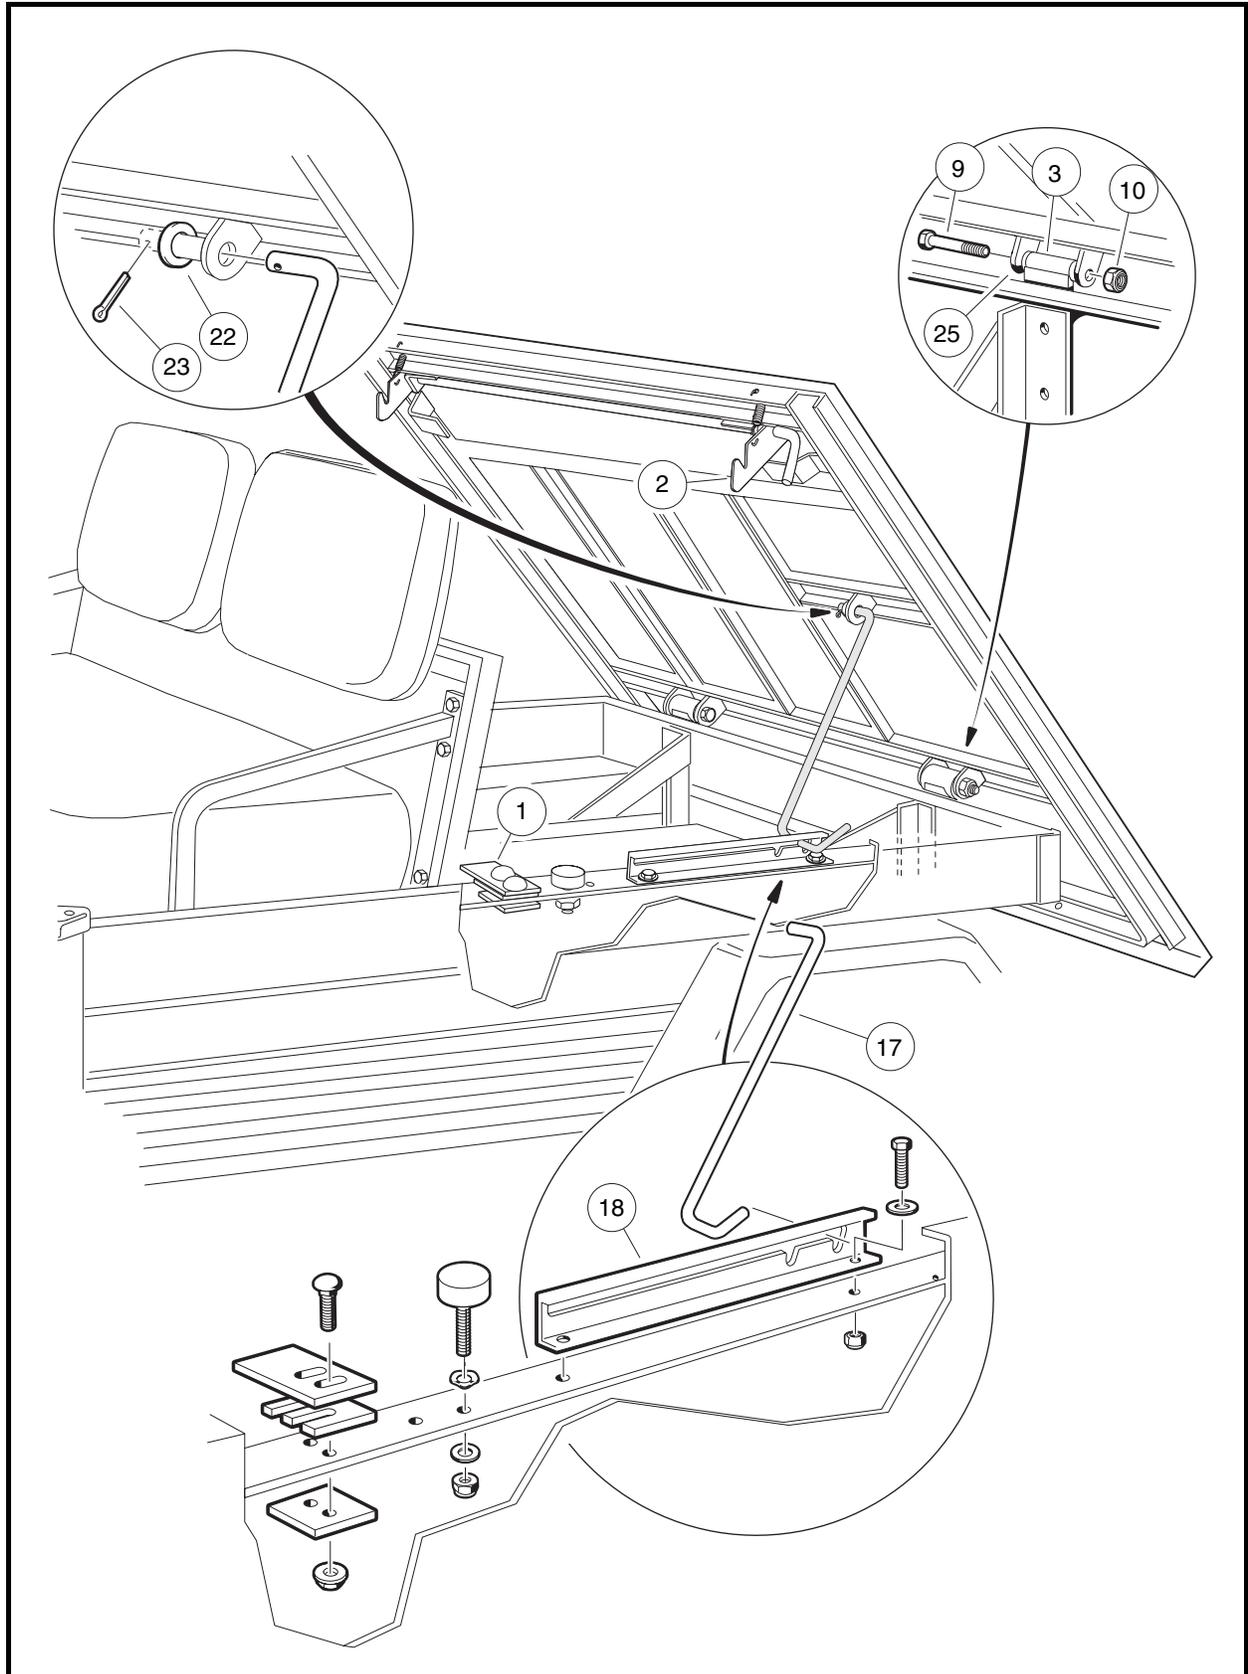

Figure 4-2 Tilt Bed – Turf 1, 2, Carryall 1, 2, and 2 Plus
1. **Turf 2, Carryall 2, and 2 Plus only:** Raise bed and secure prop rod (17) in prop rod track (18). Hold bed securely in an upright position. Remove cotter pin (23) and flat washer (22) from top end of prop rod where prop rod attaches to bed. Remove prop rod (17) from bed and place prop rod between prop rod track (18) and rear body panel. Lower bed onto vehicle frame (**Figure 4-2, Page 4-6**).
2. Remove two lock nuts (10) from left and right hinge assemblies (3 and 25).
3. Apply slight upward pressure (by hand) on the rear of the bed to relieve pressure on the hinges, and remove the hinge bolts (9) from the hinge assemblies.
4. Raise rear edge of bed approximately 6 inches (15.2 cm) and pull bed assembly toward rear of vehicle approximately 3 inches (7.6 cm) to release bed latch assembly (2) from latch plate (1).
1. Hold bed at a slight angle (front of bed lower than rear of bed) to vehicle and place front edge of bed onto vehicle frame. Bed latches (5) should engage with latch plates (1) (**Figure 4-2, Page 4-6**).
2. Lower edge of bed onto vehicle and align hinge brackets (3) with bed hinge (25).
3. Start the bolts (9) into left and right hinge assemblies (3 and 25). It may be necessary to use an alignment tool to align holes in hinge bracket with steel bushing in hinge assembly.
5. Install a nylon lock nut (10) on each bolt (9) and tighten to 15 ft-lb (21 N·m).
6. **Turf 2, Carryall 2, and 2 Plus only:** Lift bed and place the prop rod (17) in bed mounting hole. Install a 3/8-inch flat washer (22) and a new cotter pin (23) on prop rod (**Figure 4-2, Page 4-6**).